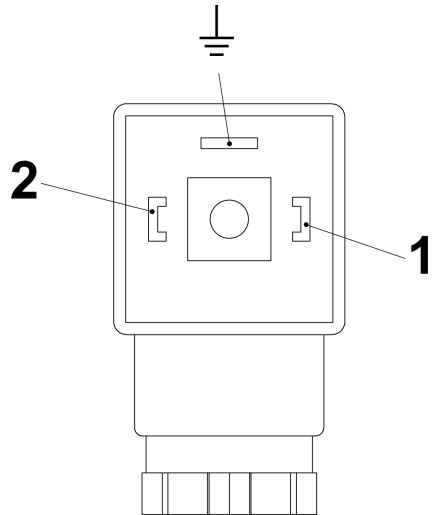
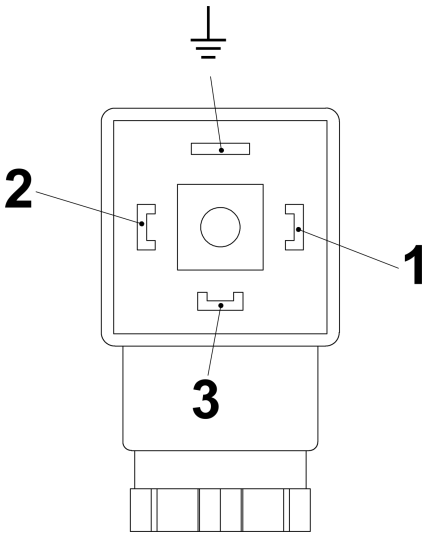

Fig. 26: Pin assignment, plug socket, normally-open contact (SG-30 with connector in compliance with EN175301-803)
Fig. 27: Pin assignment, plug socket, change-over contact (SG-30 with connector in compliance with EN175301-803)
6. ➤ Make the connections as shown in the connecting diagram (Fig. 26 and Fig. 27)